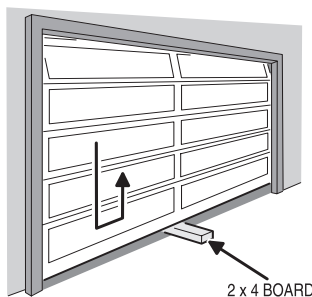

Figure 2 Checking safety reverse
- B** To test the safety reverse (Figure 2).